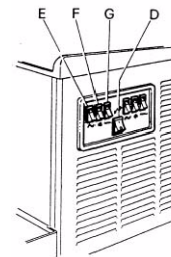

FIGURE 9
1. Turn ON the main power switch (D) (see Figure 9)
-  (E) activates the mixing parts/spiral auger;
-  (F) activates the freezing of the product;
-  (G) activates the refrigeration of the product (night/defrost setting).